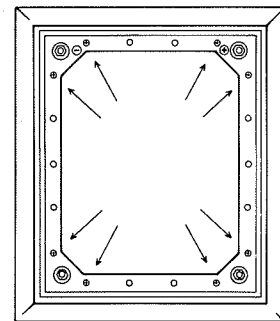

Fig.2
- 3** **INSTALL THE BEZEL (fig.2 & 3)**. First identify the 8 fixing screw holes. Assemble the 8 clips with their screws and washers to the bezel, allowing them to hang loosely. Identify the connecting terminals and insert the bezel into the aperture already cut making sure that the terminals are at the top if the mounting is vertical, or to the outside if horizontal. Turn the clips to grip the wall and tighten the screws. Additional screws/clips may be used if necessary to counteract any unevenness in the wall surface.